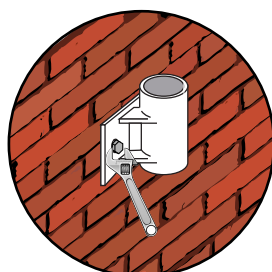

Fig 1.
1. Check contents. Position bottom bracket ensuring that it is vertical, drill holes and bolt to the wall (see Fig 1).